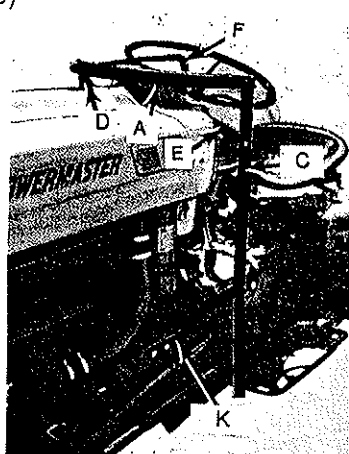
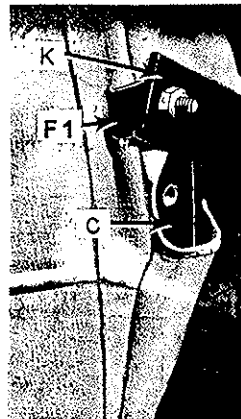

FIGURE 2
FIGURE 5
2. Attach (K) #712585501 door post bracket bottom bracket and the (L) #712586001 right bottom bracket using two 5/8" x 1" stud bolts on each side . See Figures 2 & 3.
3. Attach the two (E) #712585401 door post bracket top, one on both the left and right. Use Phillips screws which are located at rear of the instrument panel below the steering wheel. See Figures 2 & 3.
5. Place vinyl cover over tractor. Insert (C) #712585201 door post in left rear hem. Bolt to door post top bracket and door post bottom bracket. There are 2 holes approx. 1" apart just above the bend in the door post. See Figures 2 & 3. (For 600 & 601 Series use upper hole and bolt must also go through bottom F-1 clip or hinge for the door. See Figure 5.) (For 800 & 801 Series use lower hole which is just above the bend in the door post.)
6. Insert (A) #712100201 yoke in hem at top of cover. Bolt to the door post and the right yoke support . See Figs. 2 & 3.
10. Mount (H) #720678302 door on the door post using F-1 clips. On the 600 & 601 Series the bottom F-1 clip fasten to the bolt holding the door post bottom bracket. See Figure 5.